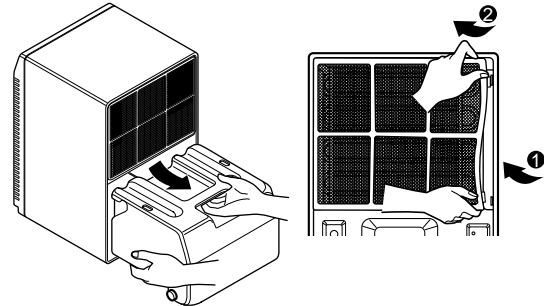

Figure 5
3. Remove the bucket (See Figure 5)
4. Flex the filter at the lower right corner and take it off. (See Figure 5)